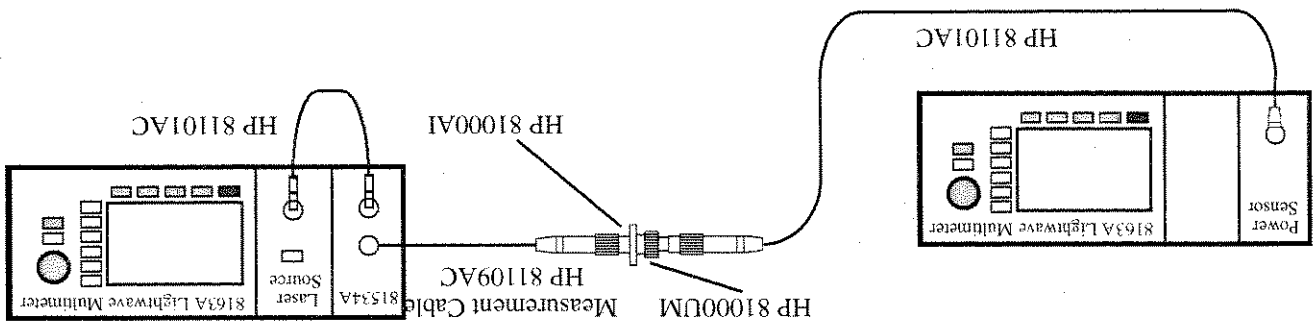

Figure 94 Measuring the Power Transmitted through the DUT (a Connector Pair)
- 17 Connect the reference cable to a Power Sensor, for example, a Connector Pair, as shown in Figure 94.